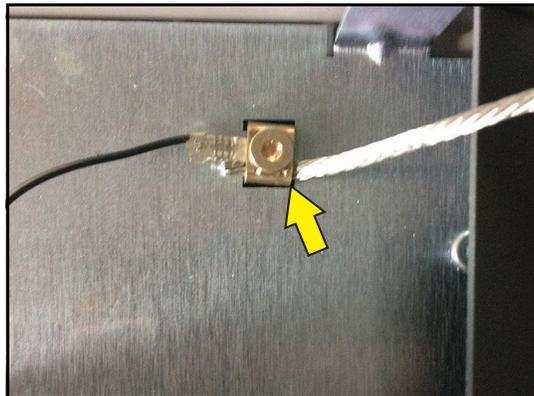

**Figure 7. Remove Top and Bottom Optional Display Door Hinge Screws**
5. Remove the TLS-450PLUS Ack Switch Panel/Display door by removing the top and bottom hinge shoulder screws (see Figure 7).